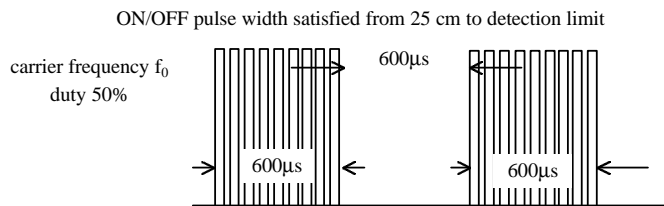

Fig 1. Burst Wave
- (1)Measuring placeIndoor without extreme reflection of light.
- (2)Ambient light source... Detecting surface illumination shall be 200±50Lux under ordinary white fluorescence lamp of no high frequency lighting.
- (3)Standard transmitter ... Burst wave indicated in Fig 1. of standard transmitter shall be arranged to 50mVp-p under the measuring circuit specified in Fig 2.